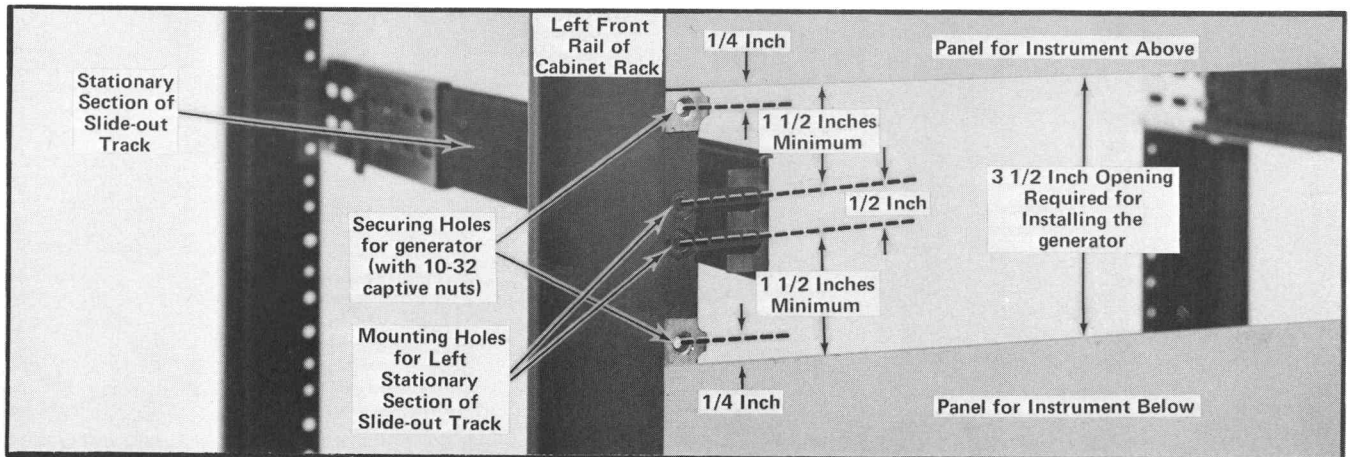

Fig. 7-5. Vertical mounting position of the left stationary section and location of the securing holes. These same dimensions apply to the right front rail.
Mounting Procedure—Use the following procedure to mount both sets. See Fig. 7-5 and 7-6 for installation details.
1. To mount the instrument directly above or below another instrument in the cabinet rack, select the appropriate holes in the front rack rails for the stationary sections using Fig. 7-5 as a guide.